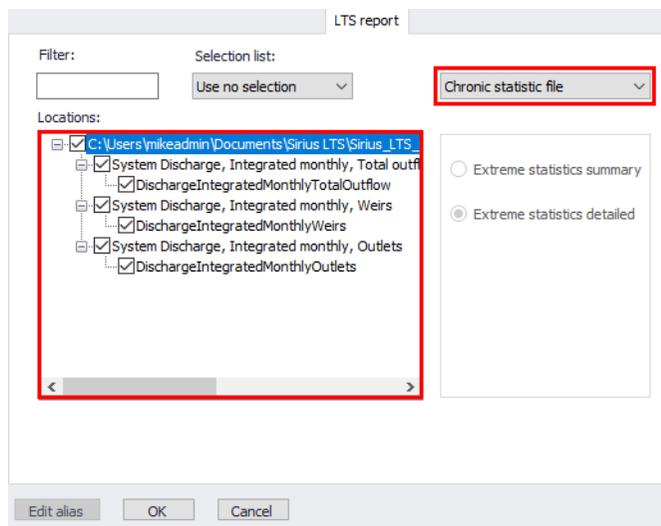

Figure 19.67 LTS chronological statistics report configuration
- Access the ‘LTS Report’ tab on the ‘Result Items’ dialog (Figure 19.67).
- Choose to generate a report with the ‘Chronological statistics file’ from the dropdown menu on the upper right side of the page (Figure 19.67).
- Select the items which shall be included in the report (Figure 19.67). Note that relevant items are offered on the Locations panel only if the appropriate LTS result file has been activated for the result document creation.